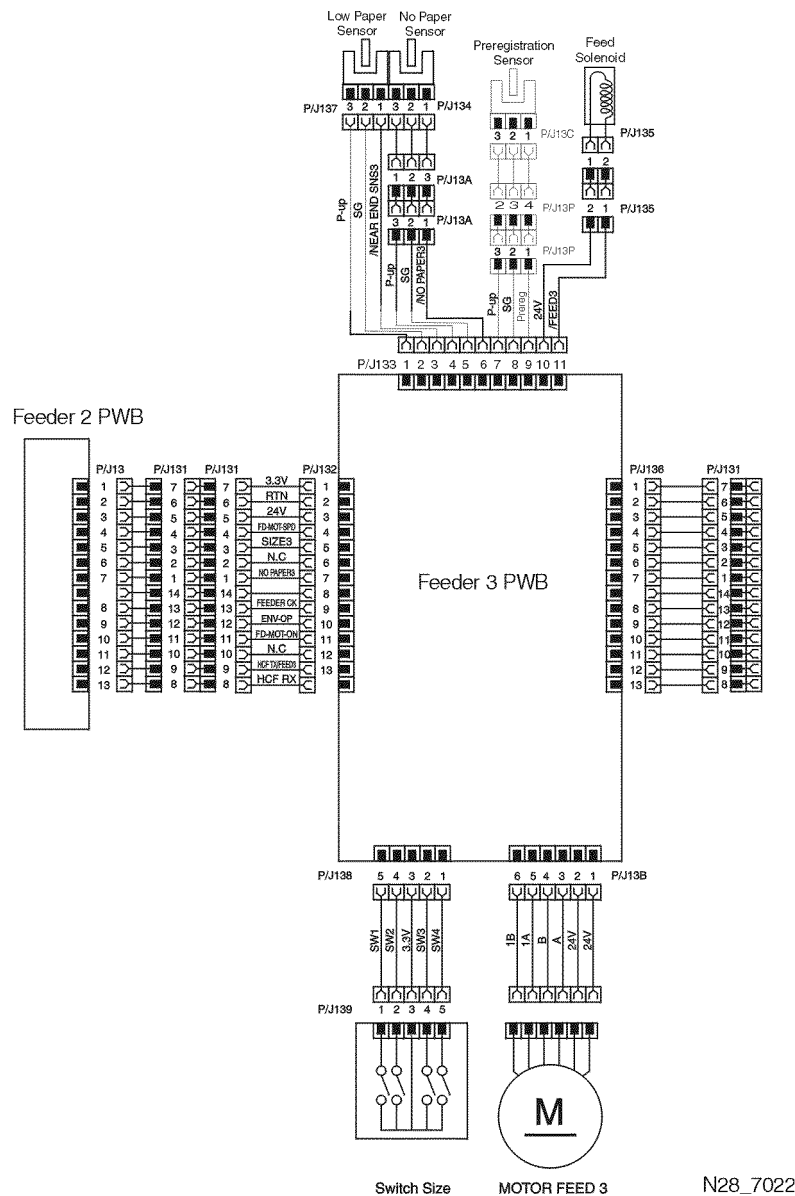

Figure 3 500 Sheet Feeder - Tray 3.
20. Feeder 2 PWB "Feeder 3 PWB" Low Paper Sensor, No Paper Sensor, Tray 1 Feed Solenoid, Switch Size and Motor Feed 3 Figure 3